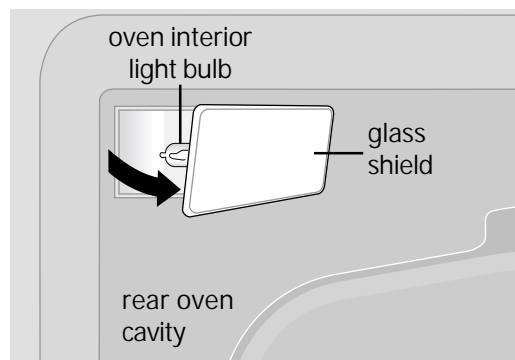

Fig. 1
The interior oven light is located at the rear oven cavity and is covered with a glass shield. The glass shield must be in place whenever the oven is in use (See Fig. 1).
2. Remove interior oven light shield (See Fig. 1).
1. Open oven door completely (horizontal with floor - See Fig. 1).
3. With both door hinge arms in place, open the oven door (horizontal with floor - See Fig. 1).